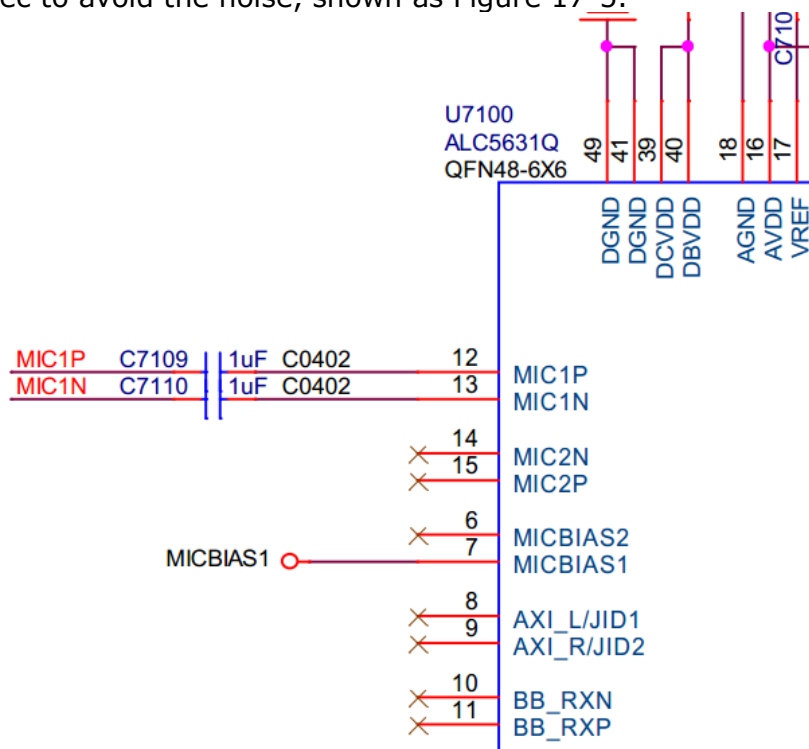

Figure 17-5
- MIC input signal is sensitive, the coupling capacitance of MIC should be placed close to Codec to avoid the noise, shown as Figure 17-5.